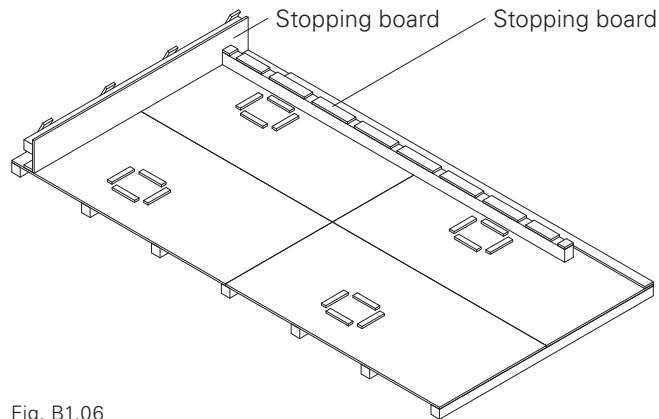

Fig. B1.06
1. On a sufficiently large and flat assembly area, mount stopping boards for both Steel Walers SRU U120 (6) and the spacing battens for the Girder VT 20K (5) according to the assembly plans. (Fig. B1.06)